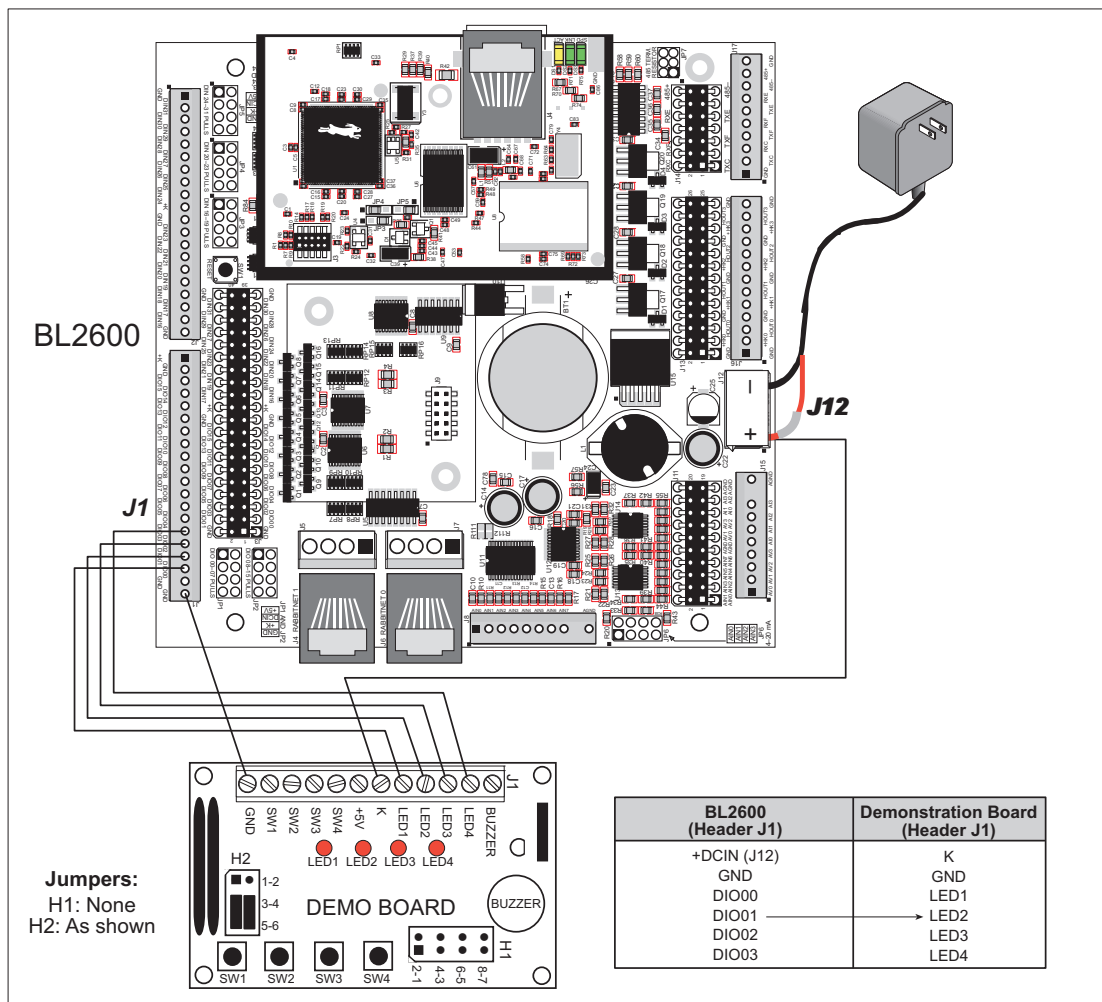
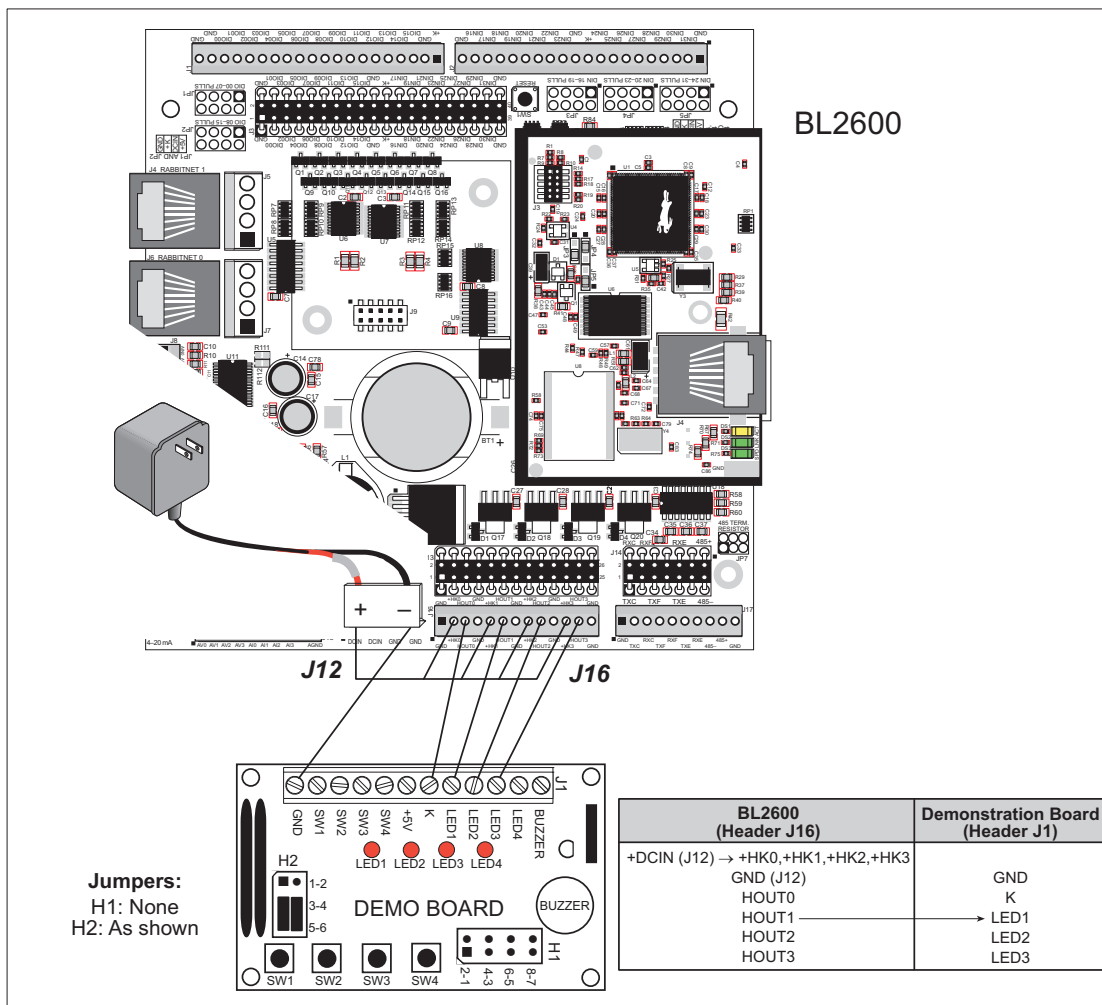

Figure C-2. Digital Output Connections Between BL2600 and Demonstration Board
Figure C-3. HIGH_CURRENT_IO.C Connections Between BL2600 and Demonstration Board
1. Use the wires included in the BL2600 Tool Kit to connect header J1 on the Demonstration Board to screw-terminal headers J1 and J12 on the BL2600. The connections are shown in Figure C-1 for sample program **DIGIN.C** and for sample program **SMTP.C**, in Figure C-2 for sample program **DIGOUT.C** and for sample program **SSI.C**, and in Figure C-3 for sample program **HIGH_CURRENT_IO.C**.
NOTE: +HK0...+HK3 on header J16 must be connected to +DCIN on friction-lock connector J12 as shown in Figure C-3.